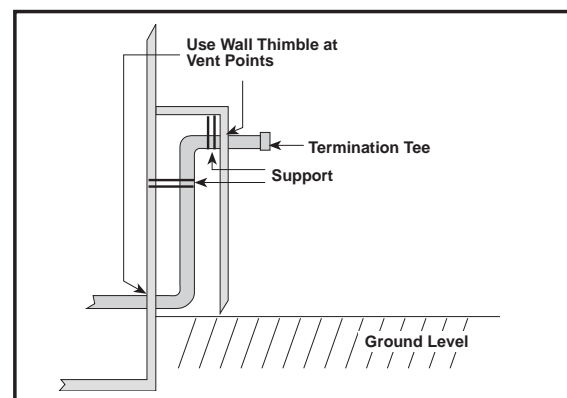

Figure 11. Alternate Horizontal Vent Installation
8. When penetrating a noncombustible wall, the hole through the wall must be large enough to maintain the pitch, pipe clearance for passage, and provide for proper sealing. Penetrating a combustible wall requires the use of a wall thimble. (See Figure 11.) A 6-1/2 inch square framed opening is required to insert the thimble halves. The thimble is adjustable to varying wall thickness and is held in place by applying sealant to the male sleeve before assembly. Also run a bead of sealant around the outer wall thimble.